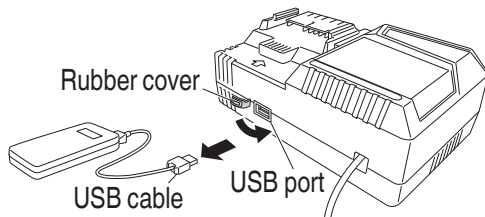

Fig. 17
- (3) When charging is completed
- Unplug the power cord from the electrical outlet. (Fig. 17)